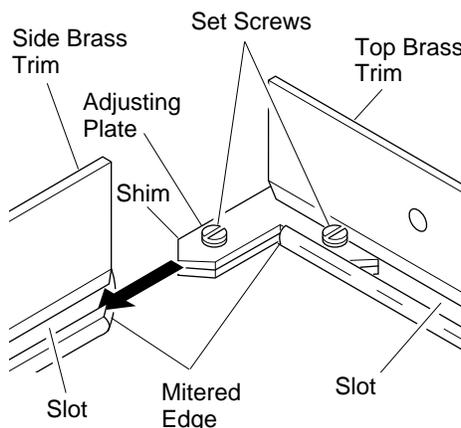

Figure 10 - Assembling Brass Trim
10. Align shim under adjusting plate as shown in Figure 10.
11. Slide one end of adjusting plate/shim in slot of top brass trim (see Figure 10).
12. Slide other end of adjusting plate/shim in slot on mitered edge of side brass trim (see Figure 10).